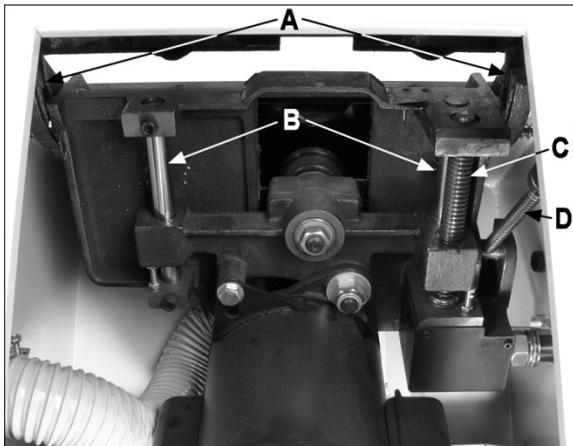

Figure 48
Refer to Figure 48.
- Blade angling trunnions (A, Figure 48).
- Wipe a light coat of grease on the elevating rods (B).
- Threads of blade elevating screw (C)
- Threads of blade tilting screw (D).